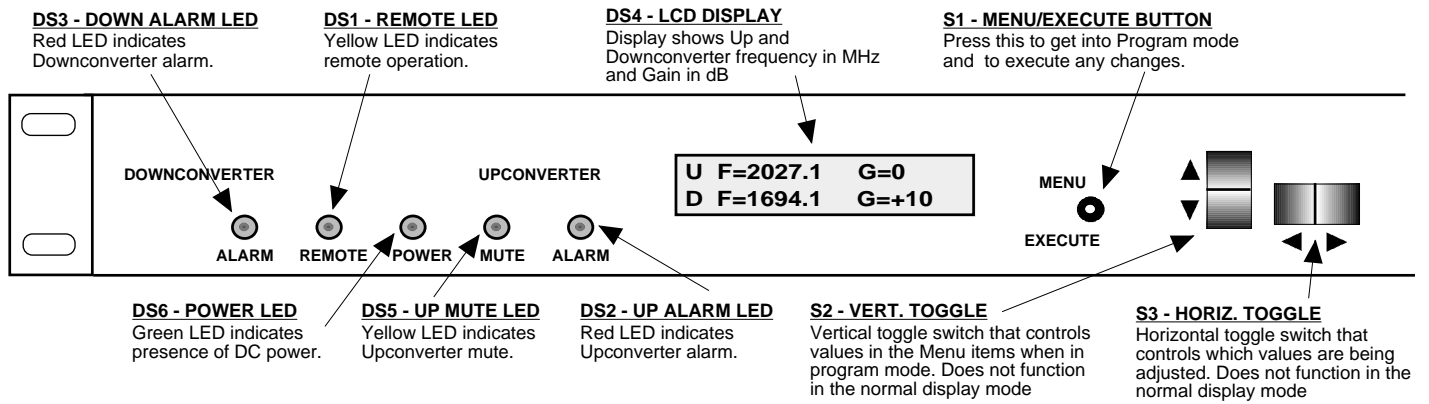

Figure 2.2 Model 2017-2016 Front Panel Controls and Indicators
- 4.) Be sure DS6 (green, DC Power) is on and DS2 & DS3 (red, Alarm) are off (Figure 2.2).
2.5.1 Functions - This section describes operation of the front panel controls. There are three operator switches, the LCD display and alarm indicator LEDs. All functions for the equipment are controlled by these components. The functions are (see Figure 2.2):
Alarm indications appear on the LEDs (see figure 2.2).